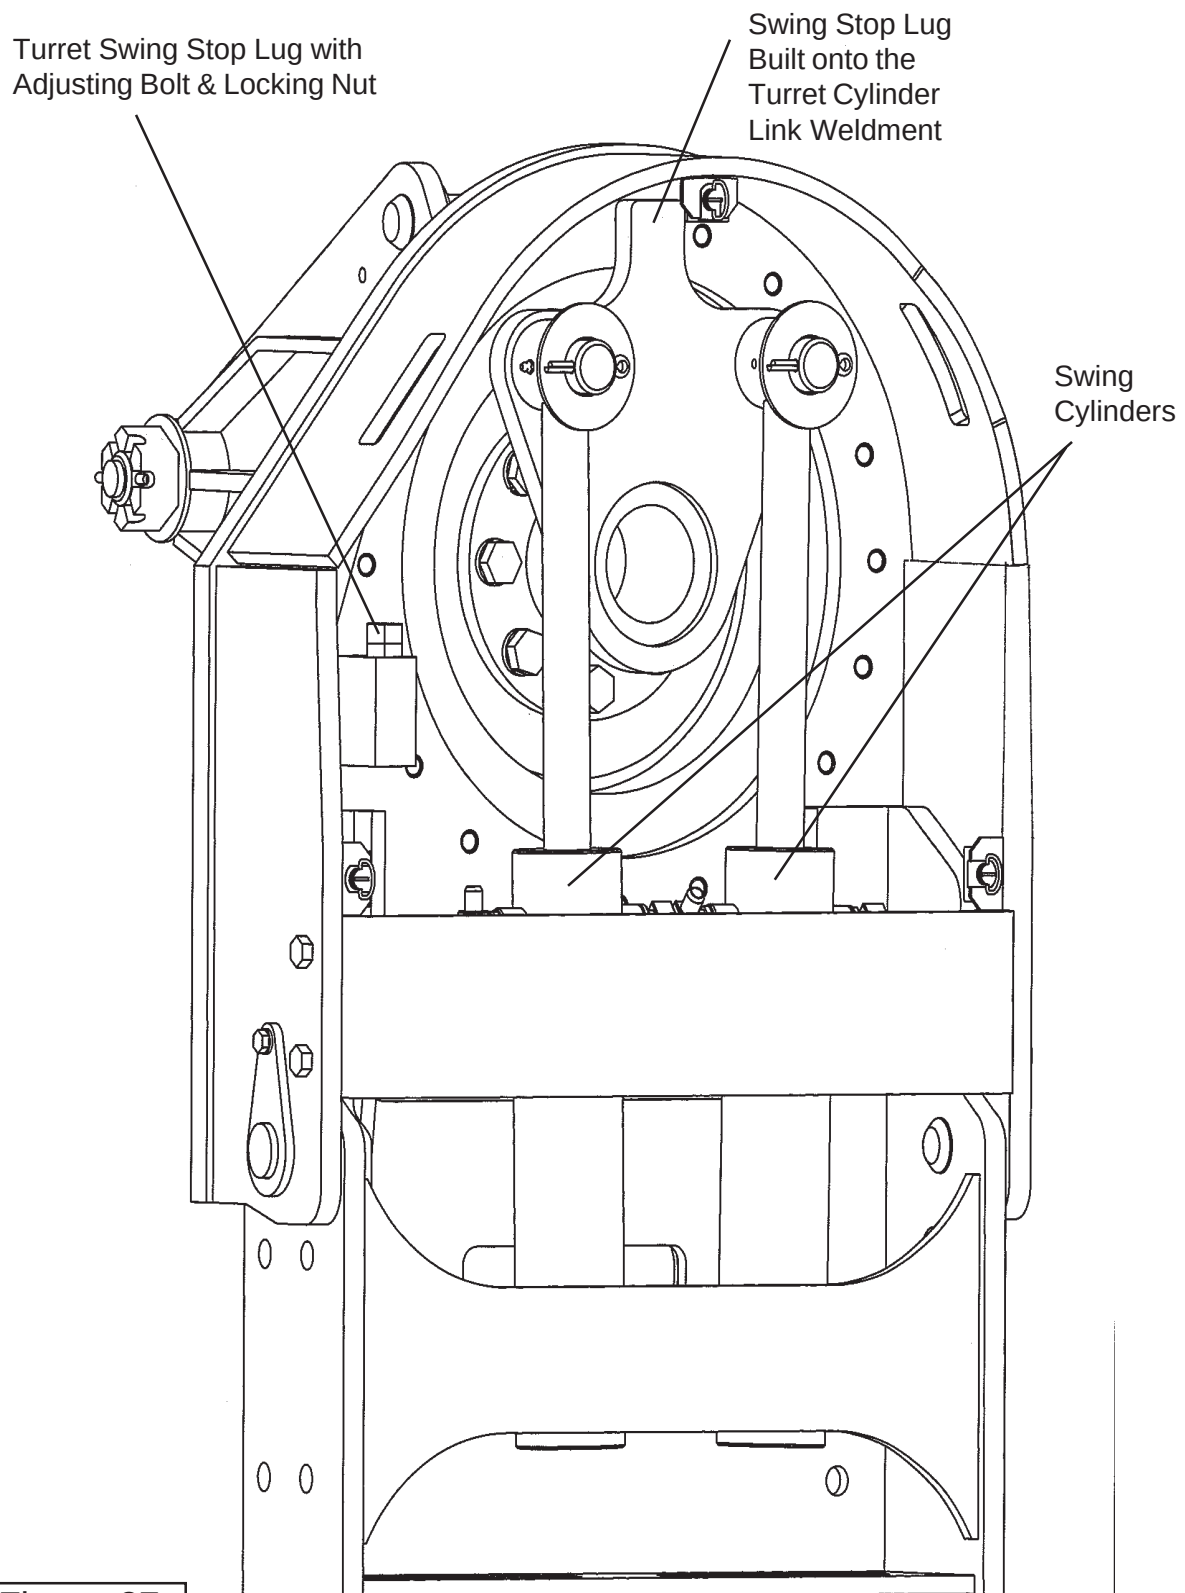

Figure 27
2. The Swing Stop Lug which is part of the Turret Cylinder Link Weldment (See Figure 27). On the side toward the rear there will be a lug with a bolt and locking nut in it (See Figure 27). Loosen the bolt and locking nut, turn the bolt outward.
4. Final Swing Stop Adjustment. Unscrew the stop bolt (See Figure 27) until the head is against the swing stop lug of the turret cylinder link weldment (See Figure 27). Hold the bolt so it won't turn tighten the locking nut down against the turret stop swing lug. Recheck to make certain the boom will not hit the cab of the tractor. It will stop at the turret stop lug when properly adjusted. This may have to be adjusted more than once, NEVER allow unit to be run if Boom will hit the cab, this will damage cab.